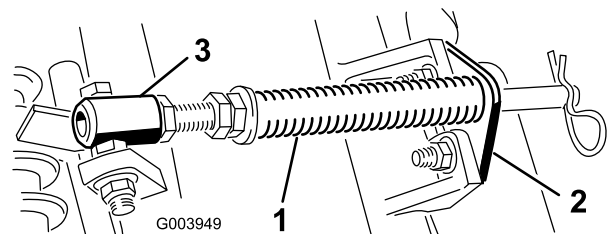

Figure 4
- A. Remove the 2 carriage bolts and nuts securing the rod bracket to the cutting-unit tabs (Figure 4).
- B. Remove the flange nut securing the spring-tube bolt to the carrier-frame tab (Figure 4) Remove the assembly.